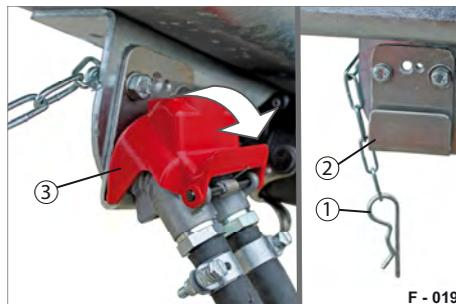

Fig. 19 Duo-Matic on park console
- ▶ Pull the spring pin (Fig. 19/1) out of the park console (Fig. 19/2).
- ▶ Press off the end cap (Fig. 19/3) and remove the Duo-Matic coupling from the park console.